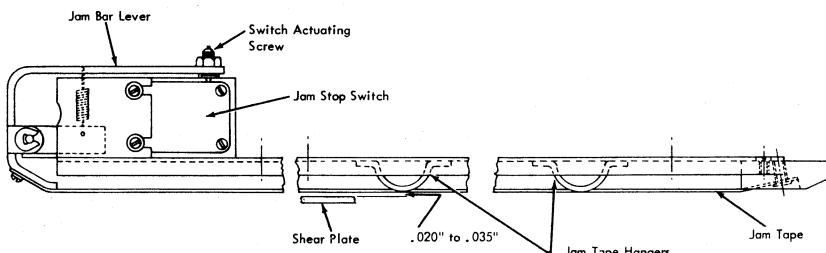

Figure 4-32. Jam Bar
1. Position jam bar, by means of its mounting brackets, for $.020"$ to $.035"$ clearance between jam tape hangers and shear plate (Figure 4-32).